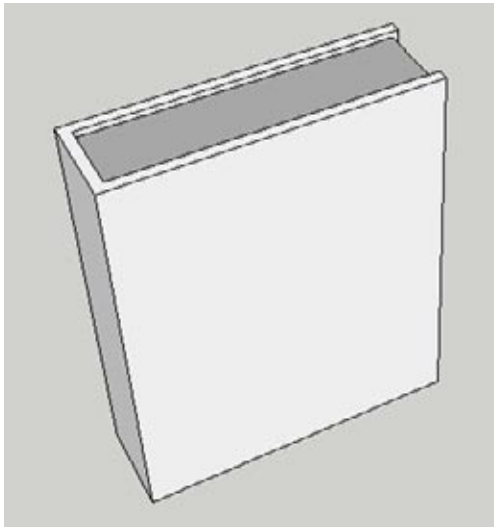

Figure 7-17
1. Start with a model of a book (Figure 7-17). You can create your model from scratch or download my Books model from the 3D Warehouse. In this model, the faces representing the pages are painted gray, and the faces for the covers and spine are left with the default color. This will make it easier to color the books later.